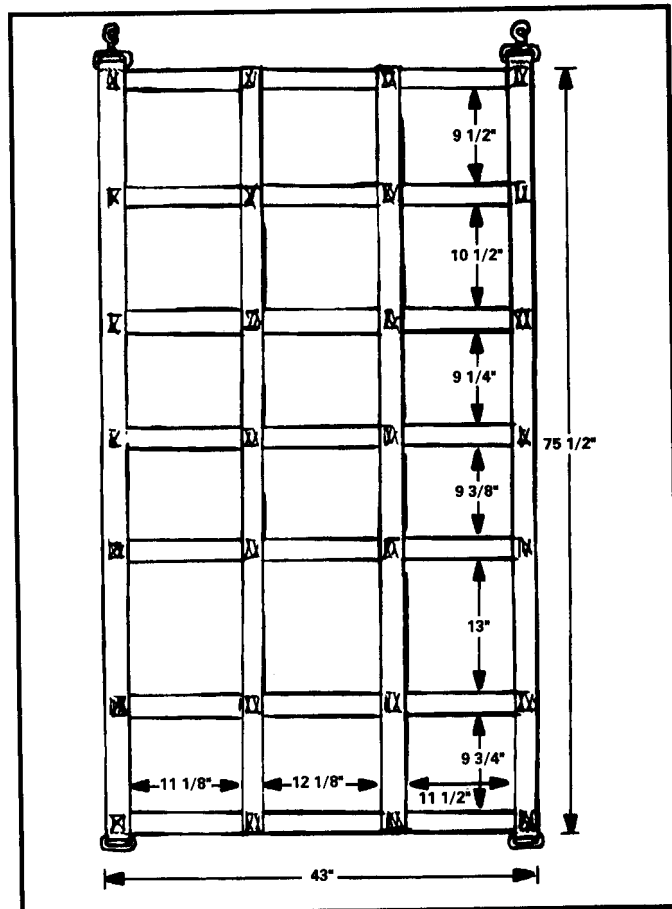

Figure 19-12. CH-54 safety gate.
(7) The safety gate is fabricated and installed at the aft end of the pod (Figure 19-12). Materials needed are as follows: